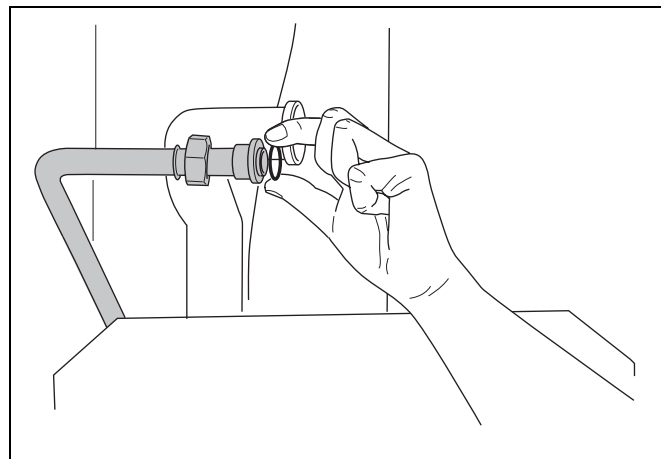

fig. 53 Replace the flat seal of the gas pipe
- Flat seal between the gas pipe and gas air unit (→ fig. 53),
- Replace the flat seal between the gas pipe and the gas air unit (→ fig. 53).